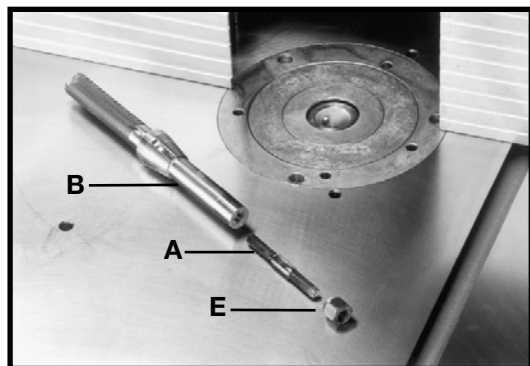

Fig. 9
1. Thread one end of the tie rod (A) Fig. 9 into the threaded hole in the bottom of the spindle (B).
3. Thread nut (E) Figs. 9 and 12 on the bottom end of the tie rod (A).